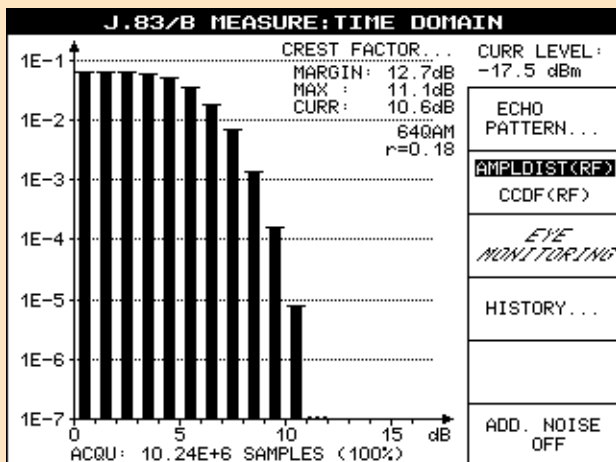

Fig. 21: Amplitude distribution
- ◆ Linearity analysis from amplitude distribution histogram and CCDF referred to the RF signal (Figs 21 and 22)